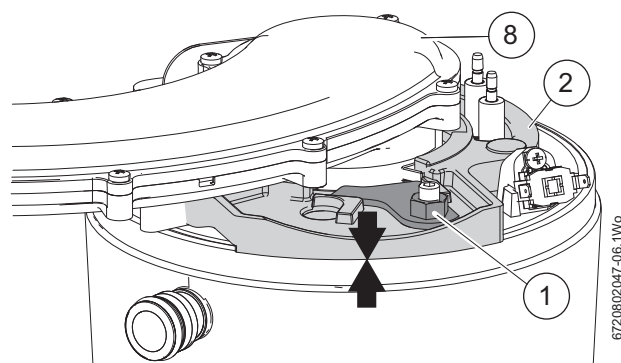

Fig. 83 Clamping plate secured
- Tighten the nut on the retaining plate assembly [1] until the underside face of the clamping plate mates with the top of the heat exchanger as indicated by the two arrows in figure 83